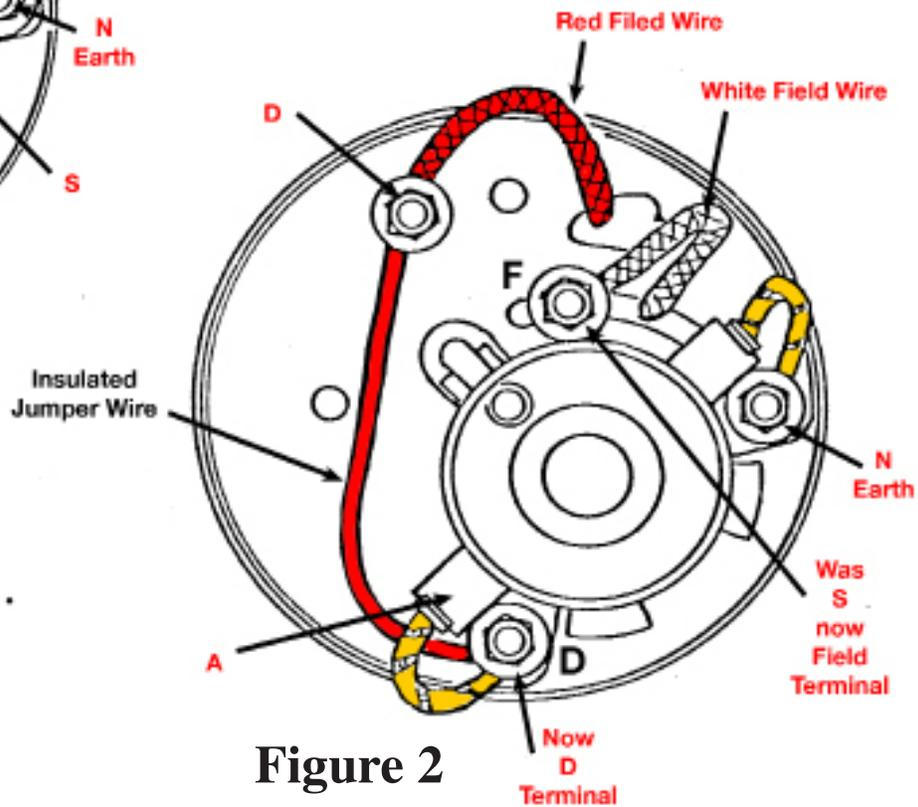

Figure 2
8. Re-assemble the generator, connecting the two filed Red and White leads as in Figure 2. The S terminal is now called the F terminal